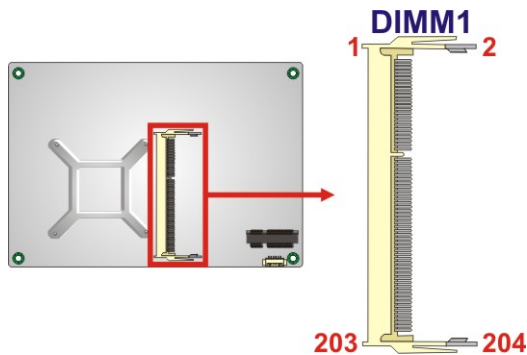

Figure 3-19: SO-DIMM Connector Location
- CN Location:** See **Figure 3-19**